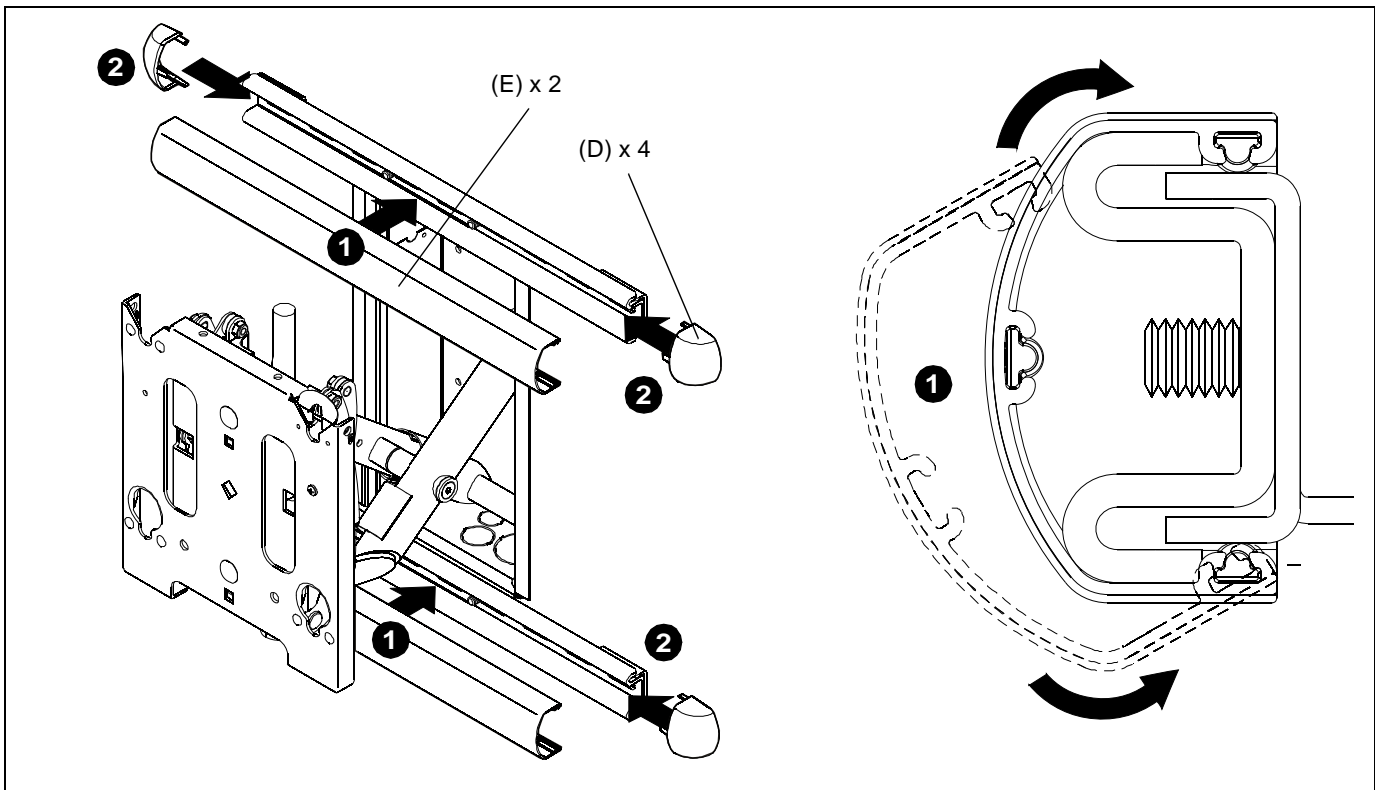

Figure 8
1. Install upper and lower wall channel covers (E) by tipping cover top down and positioning as shown in end view of figure below. (See Figure 8)
2. Tap firmly across bottom of channels to lock in place as shown in figure below. (See Figure 8)
3. Install four R.H. and L.H. end caps (D) by aligning tabs on end caps (D) with slots in wall caps (E) and sliding tabs in until end caps (D) are flush with wall channel covers (E). (See Figure 8)